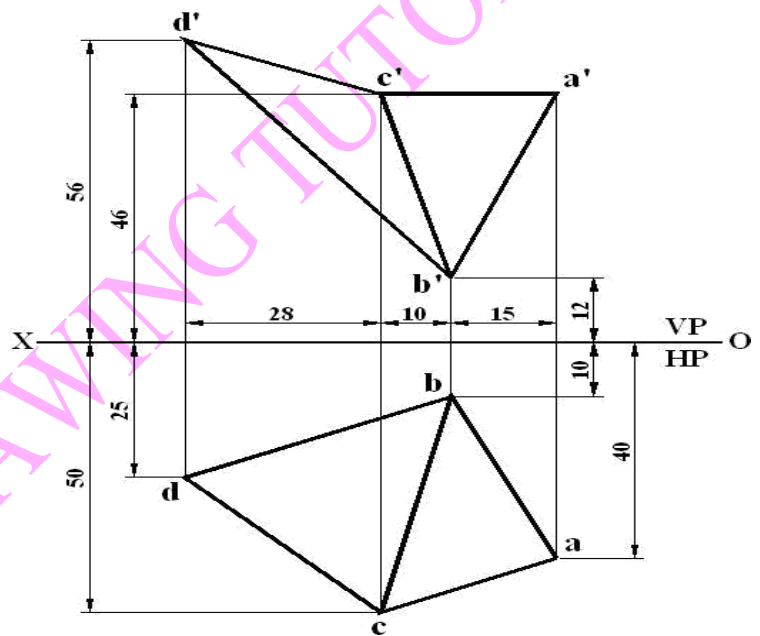

Figure 3.16
16. Determine the true angle between the given planes **ABC** and **BCD** shown in **Figure 3.16**.